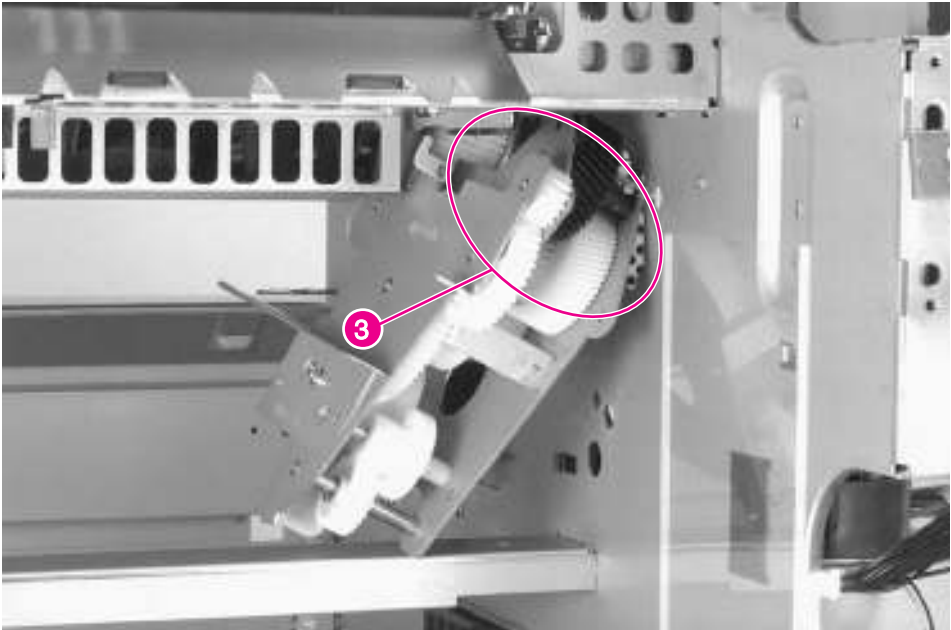

Figure 6-38 **Main Gear Assembly (3 of 3)**
- 2 Tilt the top of the assembly inward and insert the upper back part of the assembly in place (figure 6-38, callout 3).